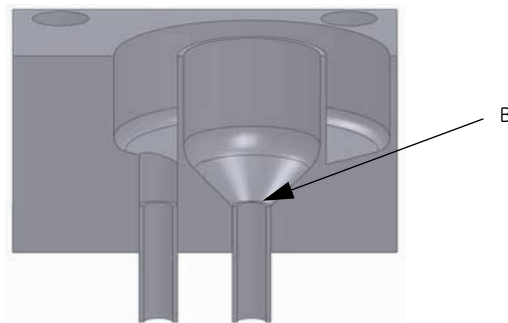

Figure 4-2. Cell stem ledge. (B = Ledge formed where the cell tube meets the plastic filling port)
- 8 Finally, lift the tip of the syringe to the cell port (just below the visible portion of the cell port) and find the ledge (See *Figure 4-2*) that is formed where the cell stem